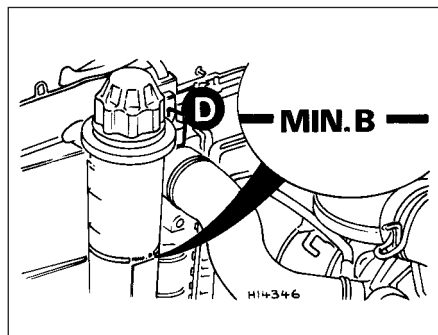

Fig. 2.3 Plug (D) in expansion tank (Sec 2)
8 Remove the plug (D) (Fig. 2.3) from the bleed hole in the expansion tank.